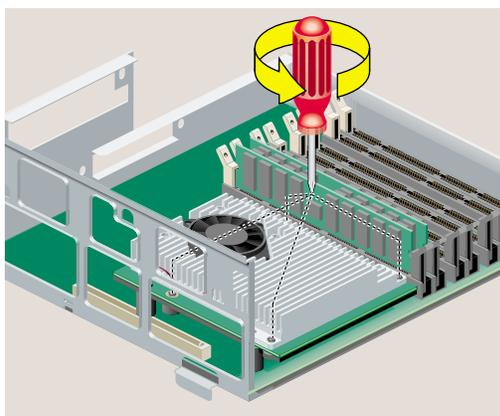

Figure 5 Removing the Screws From the R10000 or R12000 CPU Module
6. Locate the R10000 or R12000 CPU module. It is protected by a metal heat sink (Figure 5). *Do not remove the heat sink.*
7. Use a Phillips screwdriver to remove four screws from the locations shown in Figure 5.